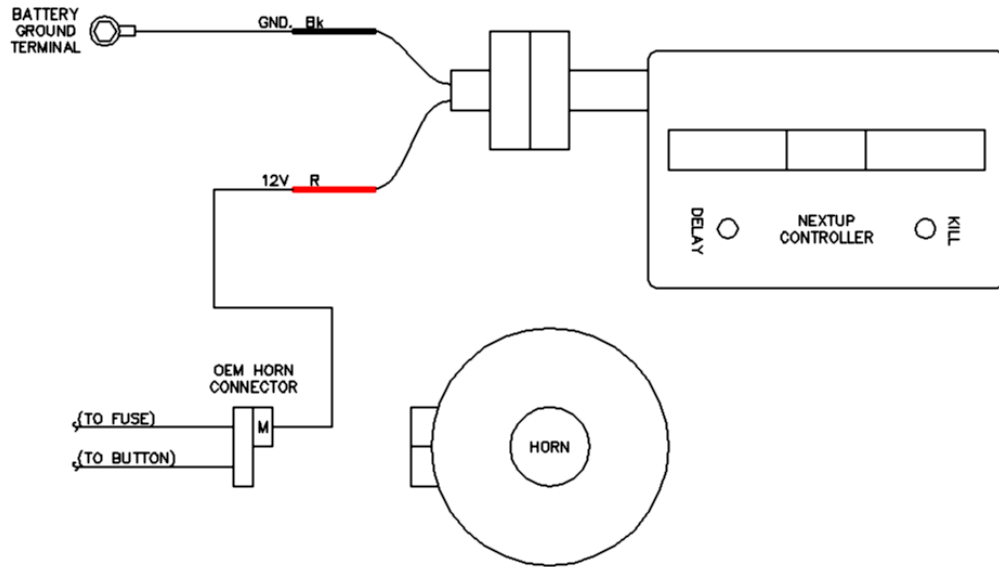
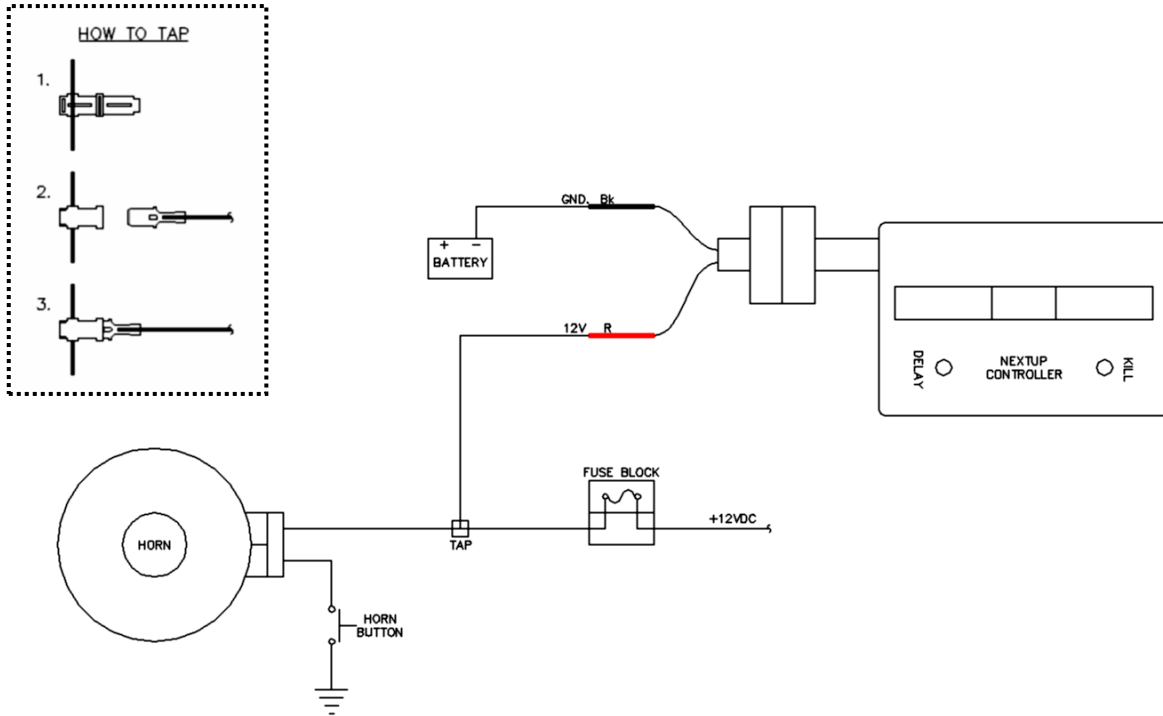
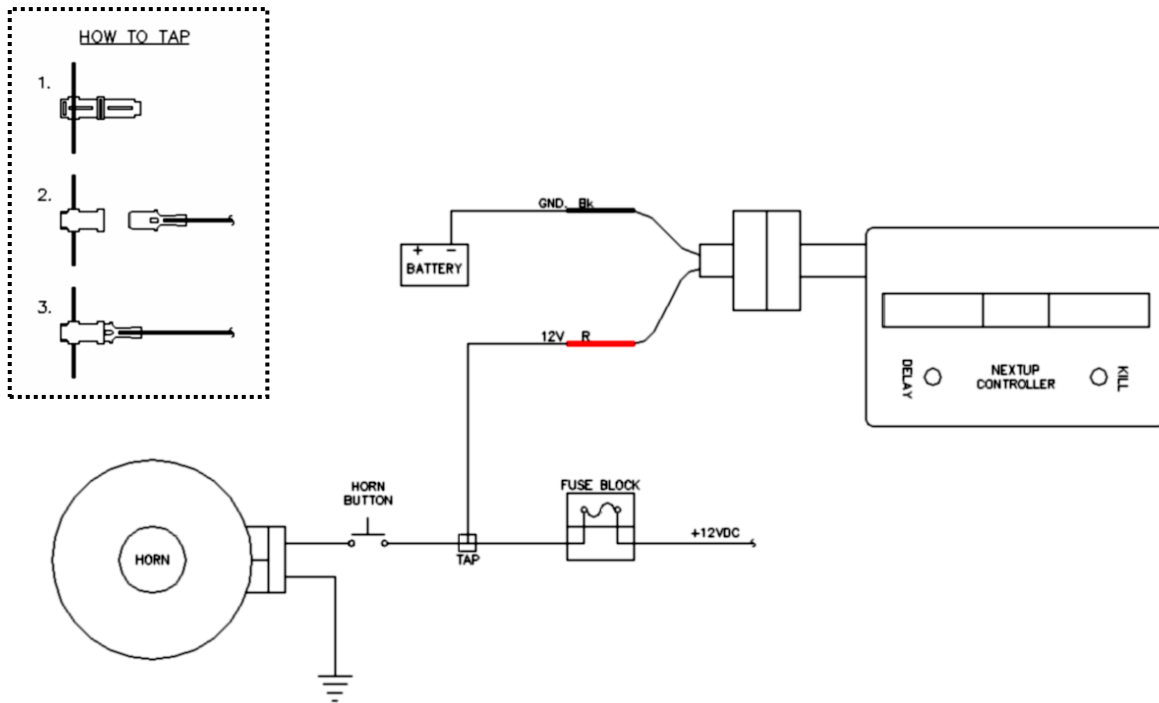

Figure 6 : Type 1 Power and Ground Connections – Horn disconnected
Figure 7 : Type 1 Power and Ground Connections – Horn connected
Figure 8 : Type 2 Power and Ground Connections
7. Turn the ignition off. For *type 1* wiring, make the power and ground connections as per Figure 6 or Figure 7 (customer choice). For *type 2* wiring, make the power and ground connections as per Figure 8.
8. Connect the *Nextup Quickshifter*, or 3rd party quickshifter, to the 2-pin connector on the *Nextup Wiring Harness*. Use Figure 6 as a guide.